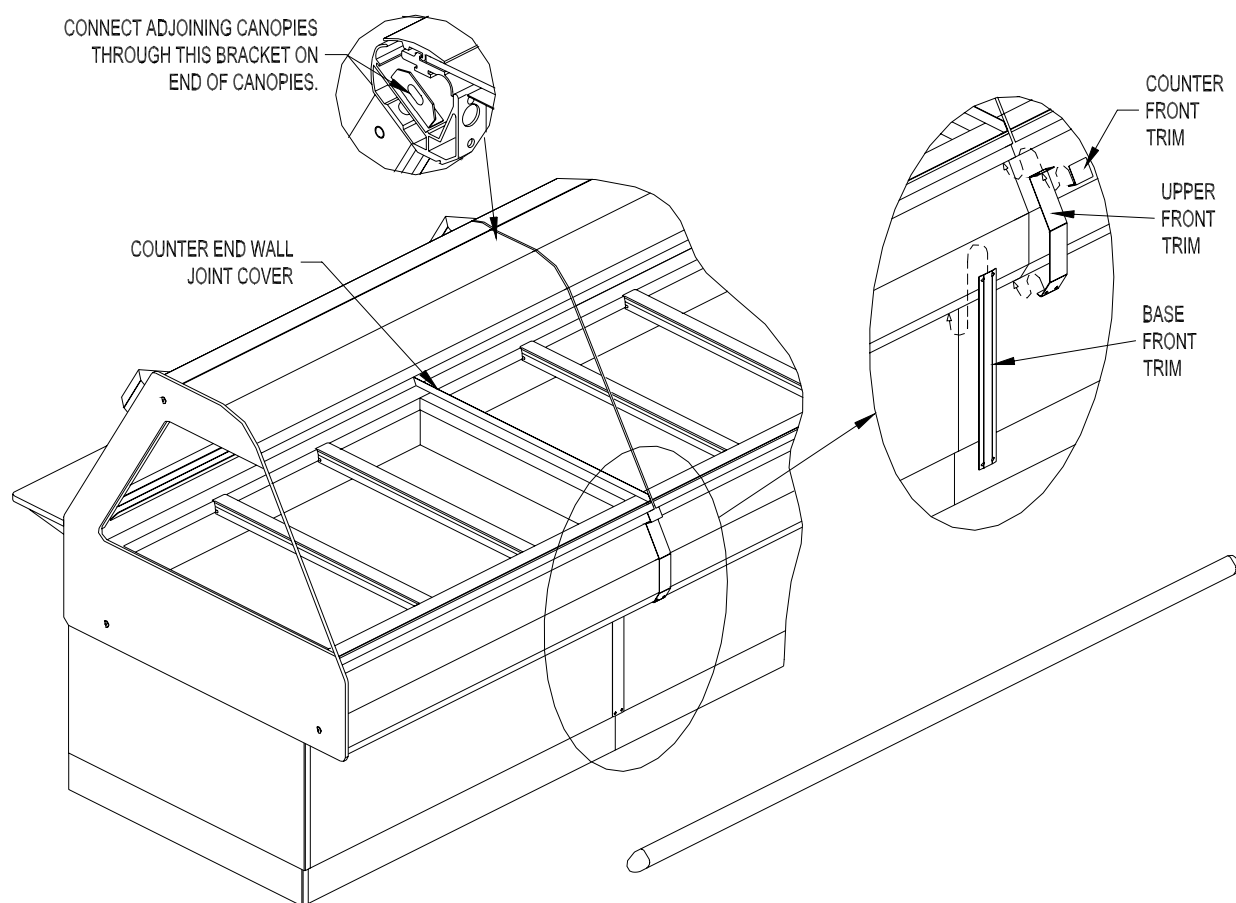

Figure 6. Joining WDCTY Cases
1. After leveling the cases and bolting the bases together, bolt the canopies together as shown in Fig. 6 with a $\frac{1}{4}$ "-20 x $\frac{3}{4}$ " Hex Head Screw and Keps Nut.